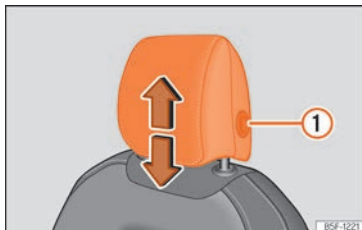
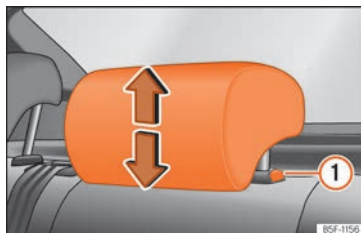

Fig. 113 Front seat: headrest adjustment.
Fig. 114 Rear headrest: headrest adjustment.
- Grab the sides of the headrests with both hands and push upwards to the desired position. To lower it, repeat the same action, pressing the ① » Fig. 113 » Fig. 114 button on the side.
- Press the side button » Fig. 113 ① and remove the headrest.